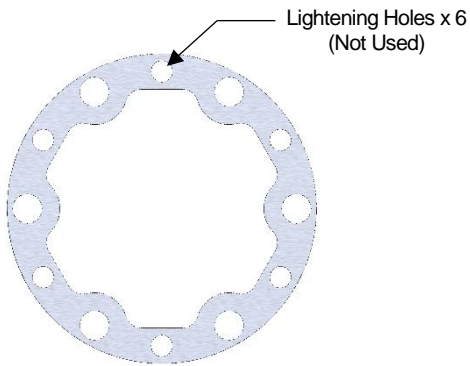

Figure 3: Spacer Plate
2. Place spacer plate on mount half aligning mounting holes. **Note: Smaller holes in spacer plate are for part lightening only. Holes do not accept supplied bolts or align with lightening holes in hub. See Figure 3.**